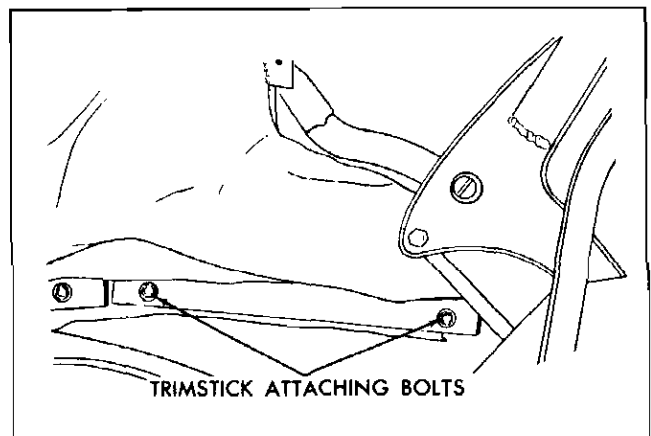

Fig. 7-24 Rear Quarter Trim Stick
6. At each rear quarter area remove attaching bolts and washers securing rear quarter trim stick assembly to rear quarter inner panel (Fig. 7-24).